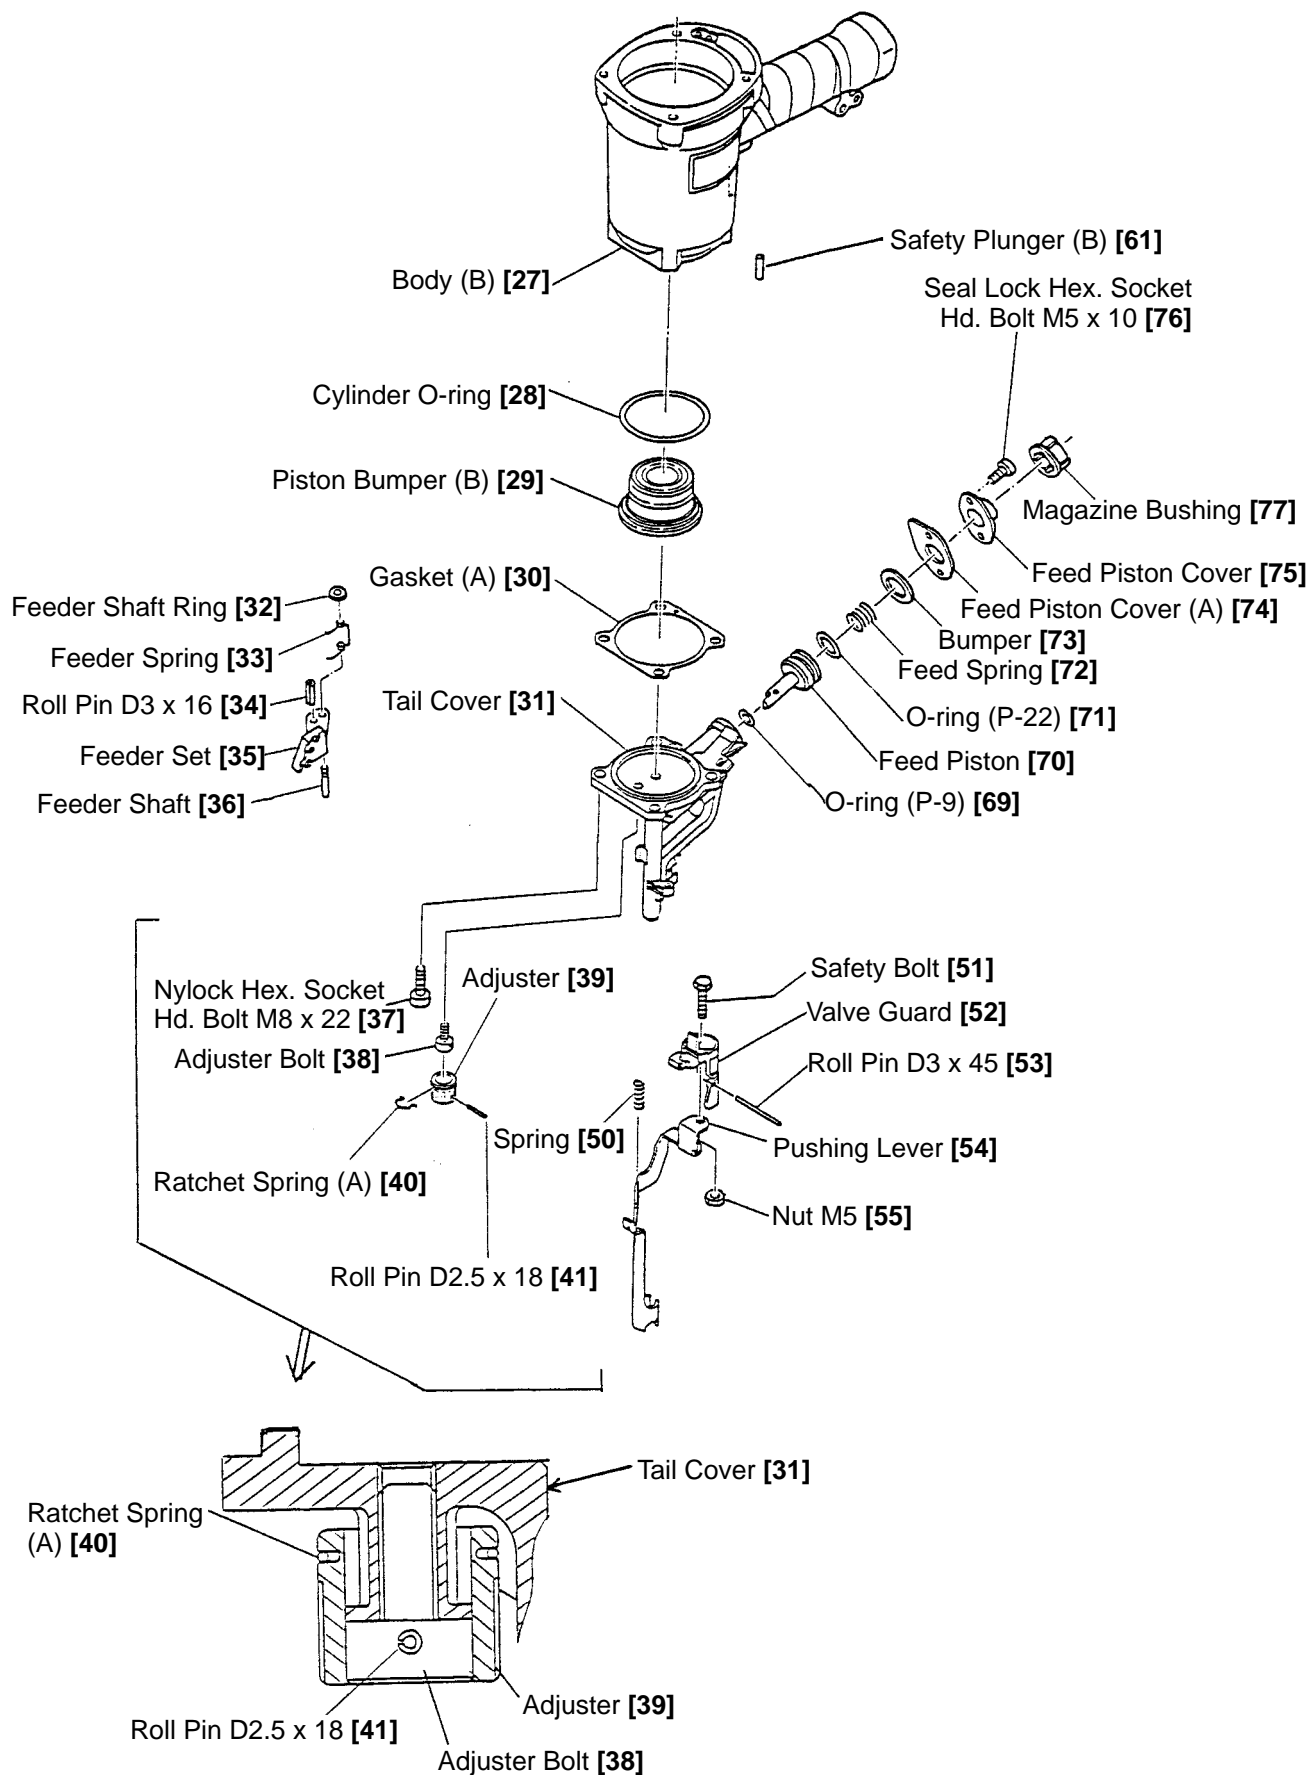

Fig. 17 Disassembly and reassembly of the driving section
(1) Tail Cover [31], Pushing Lever [54] and the related parts (See Fig. 17.)
(a) Disassembly (See Fig. 17.)
(3) Disassembly and reassembly of Adjuster **[39]** (See Fig. 17.)